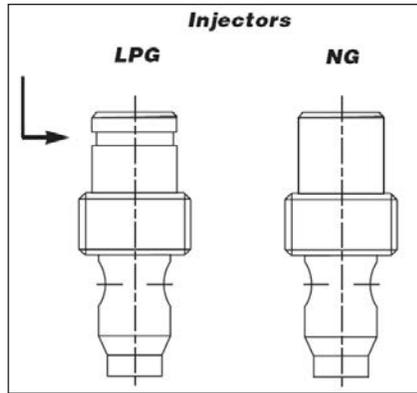

Figure 54: Identifying the Orifice.
7. Ensure that the pilot orifice you are about to install is the correct orifice. LP orifices have a groove cut around the top of the orifice. See Figure 54 for help to identify these parts. The orifice size is stamped into the orifice. The correct orifice sizes for the Q4 are **LPG - 35 and NG - 62**.